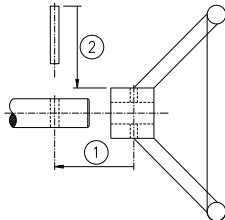

Figure 5: mounting handwheel
2. It is recommended to mount a hand wheel on the input shaft before assembling the gearbox to the valve (see figure 5).